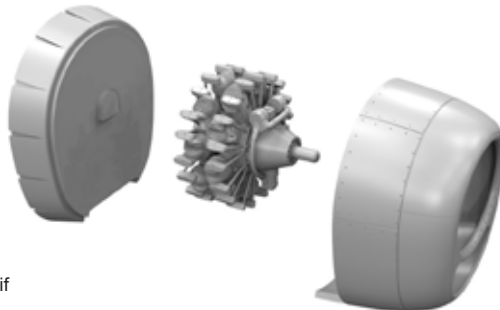

Fig. 4
2. Glue engine assembly to cowl flaps (see Fig. 4). These parts are keyed to ensure proper alignment.